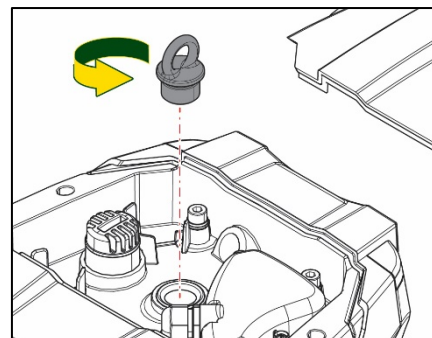

Figure 20
2. Remove the lifting eyebolt inside the upper compartment by unscrewing it (Fig.20). During the operation take care not to let impurities (liquid or solid) enter the motor.